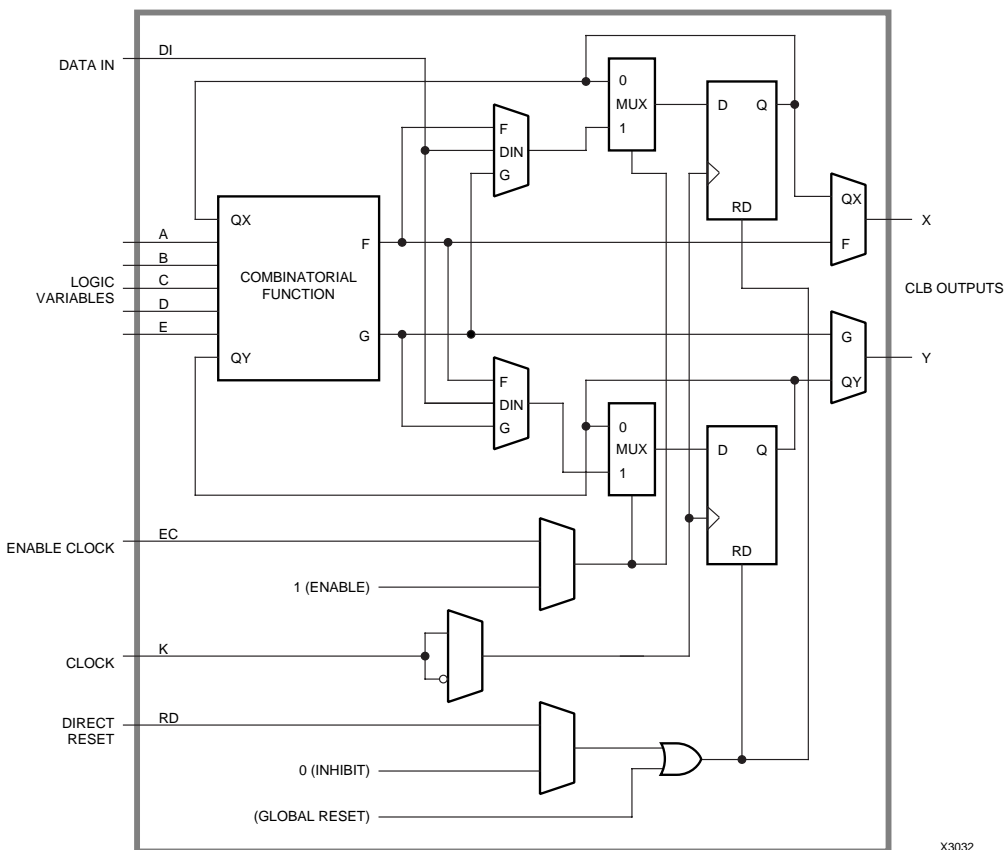

Figure 5: Configurable Logic Block.
Each CLB has a combinatorial logic section, two flip-flops, and an internal control section. See Figure 5. There are: five logic inputs (A, B, C, D and E); a common clock input (K); an asynchronous direct RESET input (RD); and an enable clock (EC). All may be driven from the interconnect